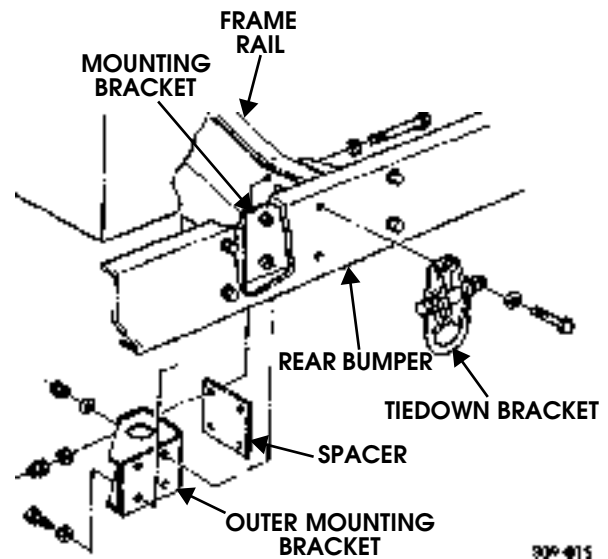

Figure 9-128: Rear Bumper Mounting Bracket Replacement
2. Remove two locknuts, washers, bolts, and washers securing tiedown bracket and outer mounting bracket to mounting bracket and rear bumper (Figure 9-128).
1. Install spacer and outer mounting bracket on frame rail and inner mounting bracket with four washers, bolts, washers, and locknuts. Do not tighten locknuts (Figure 9-128).